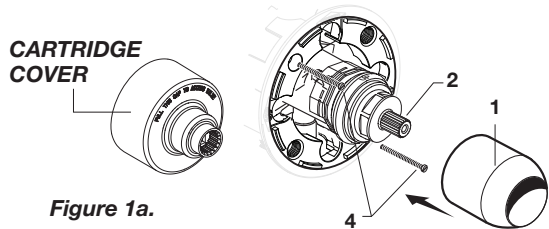

Figure 1a.
- **Figure 1a.** Remove cartridge cover. Push CAP (1) over VALVE CARTRIDGE (2) until seated against stop.